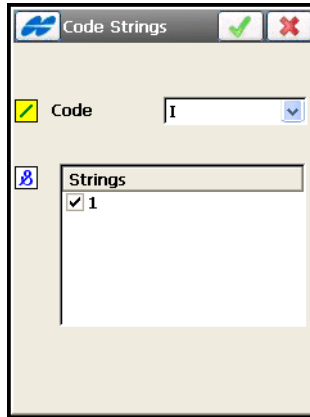

Figure 6-37. Select Points by Code String
**By Code String:** select the codes and strings with which the points are added to the line. The *Code Strings* screen displays (Figure 6-37 on page 6-31).